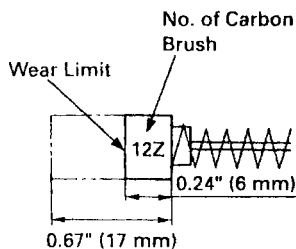

Fig. 5
3. Inspecting the carbon brushes (Fig. 5)
NOTE: Use HITACHI carbon brush No. 12Z indicated in Fig. 5.